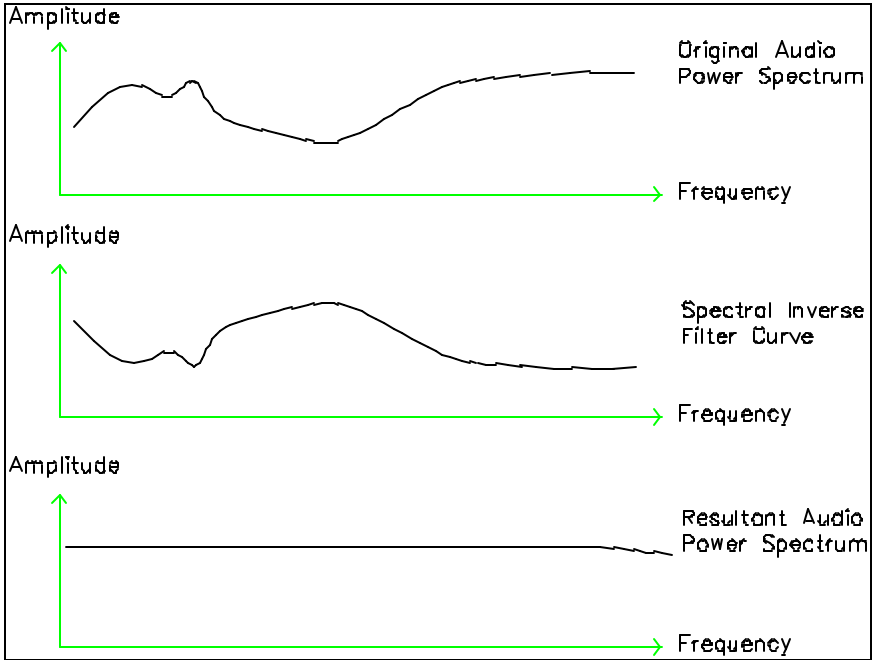

Figure 4-31 Basic Process of Spectral Inverse Filter
*SIF measures the signal's spectrum and uses this information to implement a high-resolution digital filter for correcting spectral irregularities and reduce added noises. Figure 4-31 illustrates the process. The original audio spectrum (top trace) is inverted (middle trace). A digital filter is implemented which has the shape of this middle trace. When the original spectrum (top trace) is modified by this filter, low energy frequencies are boosted and high energy frequencies are attenuated. The resulting "filtered" audio has a flat, or white, spectrum.*